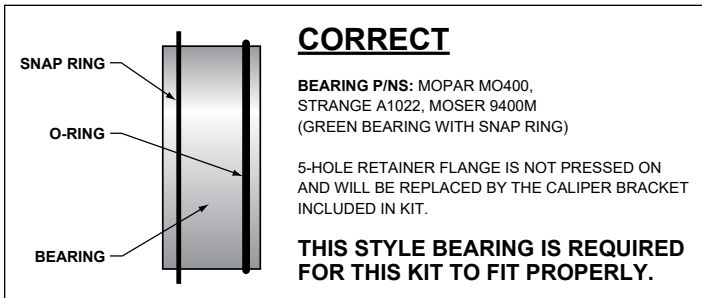
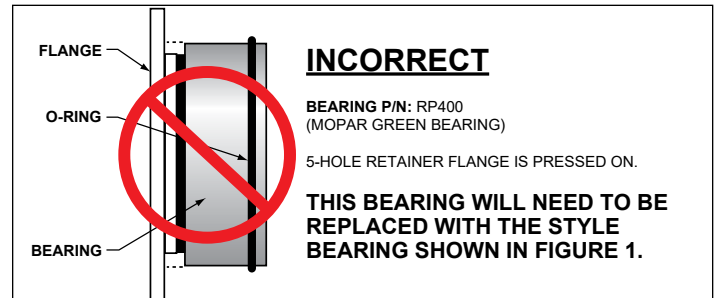

Figure 1. Snap Ring Bearing Configuration
Figure 2. Press Fit Bearing Configuration
- There are two types of “Green Bearings” being supplied by axle manufacturers. Your setup should look like Figure 1 (below left), not the Figure 2 configuration, otherwise this kit will not fit.
• Determine that the appropriate snap ring style Green bearing has been installed on the axle, as shown in Figure 1.